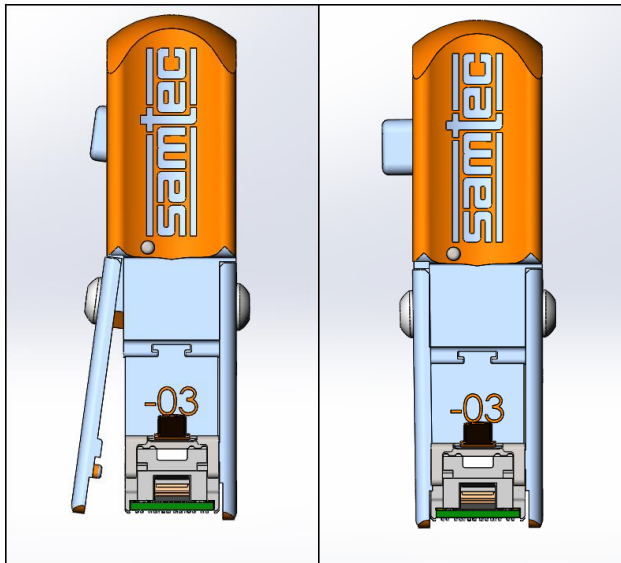

FIGURE 3
4. Release the button so that the FireFly is secured in the tool. The side of the tool should be flat as seen in **Figure 3**.